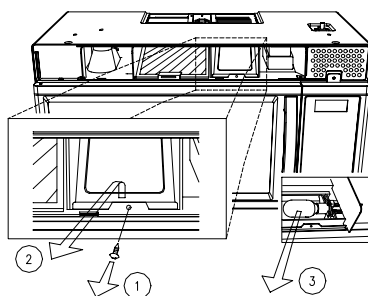

FIGURE 4
3. Remove a screw (①) for lamp over. (See Figure 4.)
4. Pull out the Lamp cover. (See Figure 4.)
7. Replace lamp cover and secure it with the screw (①).